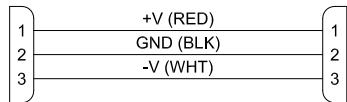

Figure 14. 3500-S Power Cable with 3-Contact Plug
- The 3500-S may obtain power from PESA system components having 3-contact power connectors by using a power cable assembly (Part No. 81-9065-1183-7) constructed as shown in Figure 14. If this cable must be constructed in the field, please consult WI50-0172 for assembly details. This cable may be used with the following equipment: